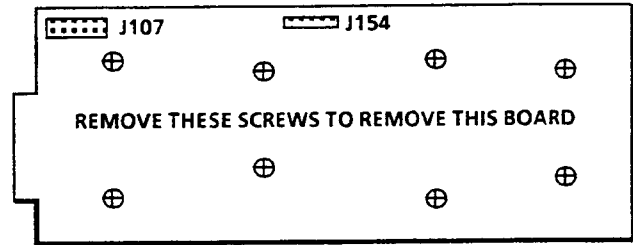

Fig. 6-10. Screws holding the Main board (A3) in place.
4. Remove the eight screws that are holding the board in place. See Fig. 6-10 for their locations.